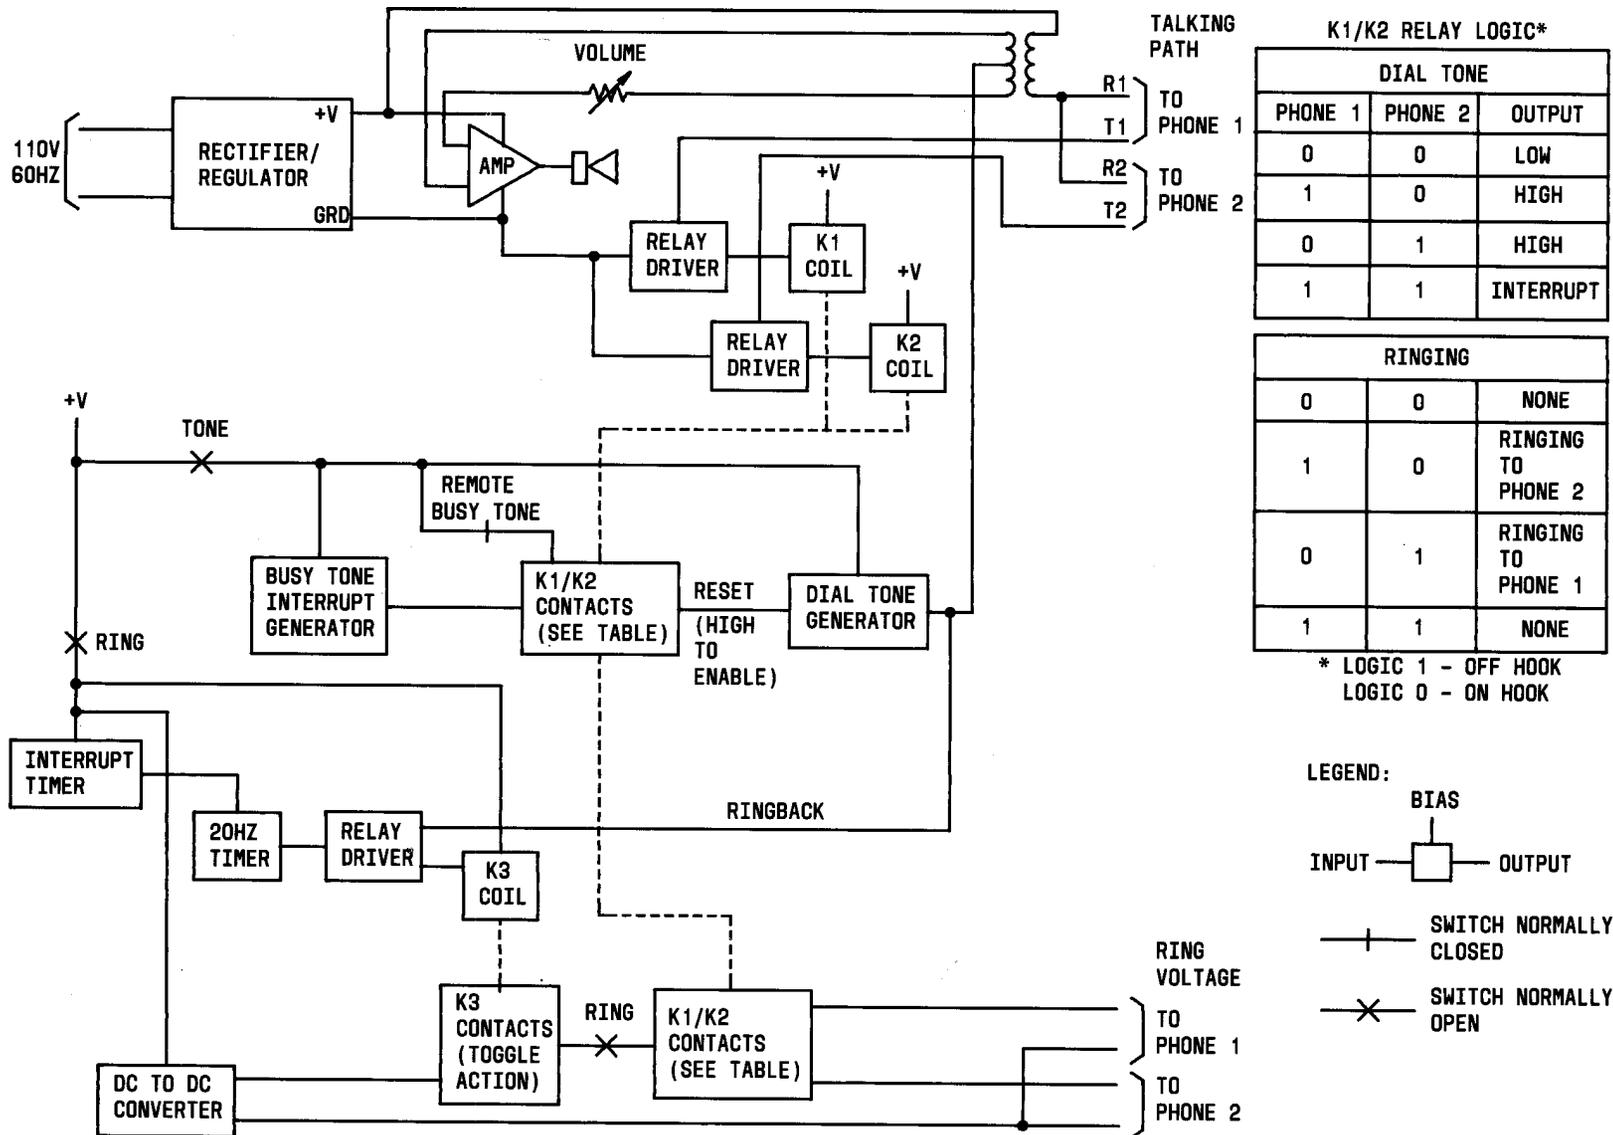

Fig. 9—Block Diagram of Control Unit
5. CIRCUIT DESCRIPTION (Fig. 9)